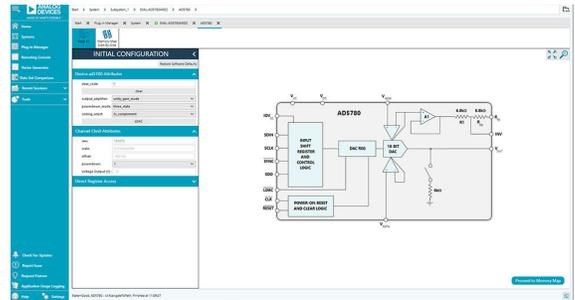
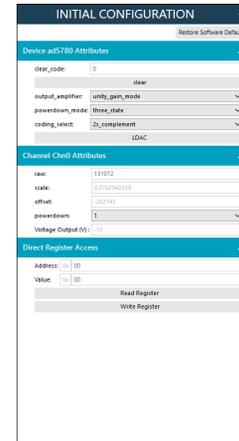

Figure 4. Chip View of the EVAL-AD5780ARDZ
Figure 5. AD5780 Block Diagram with the INITIAL CONFIGURATION Window
5. Double-click the **AD5780** chip to access the chip block diagram shown in **Figure 4**. This view provides a basic representation of the functionality of the board, together with the **INITIAL CONFIGURATION** view. See **Figure 5** and **Table 1** for details on the registers of the board.